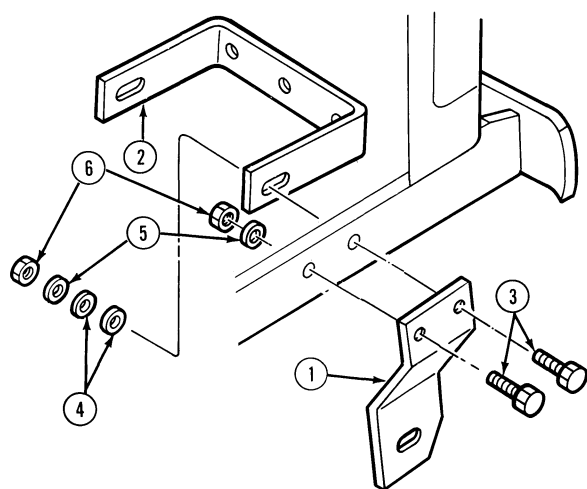
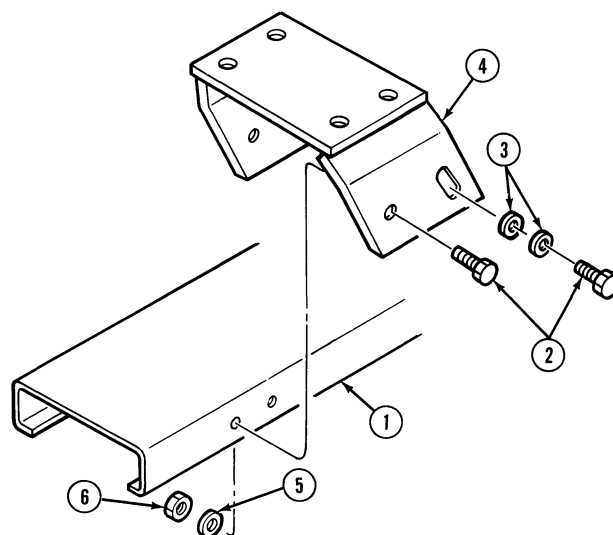

Figure 2
Figure 3
2. Attach the right and left front mounting brackets, (1), Figure 2, to the outside of tractor frame. Attach the bumper reinforcement, (2), to the inside of tractor bumper and frame.
Attach the front mounting brackets and bumper reinforcement using four 1/2" NF x 2" hex hd. bolts, (3), lockwashers, (5), nuts, (6), and flat washers, (4), as shown in Figure 2. Use two flat washers over each slotted hole on either side of the bumper reinforcement. Do not tighten the bolts at this time.
- Attach the rear frame, (1), to the back hole in the rear mounting bracket, (4), using two 1/2" NF x 1-1/2" hex hd. bolts, (2), flatwashers, (3), lockwashers, (5), and nuts, (6), as shown in Figure 3. Do not tighten the bolts at this time.
- Attach the rear frame to the front hole in the rear mounting bracket using two 1/2" NF x 1-1/2" hex head bolts, lockwashers, nuts, and four flat washers, as shown in Figure 3. Use two flat washers over each slotted hole as shown.
IMPORTANT: Torque the bolts attaching the rear frame to the front and rear mounting brackets (Figure 3 and 4), and front mounting brackets at the tractor frame (Figure 2) to 80-96 lbs.-ft.